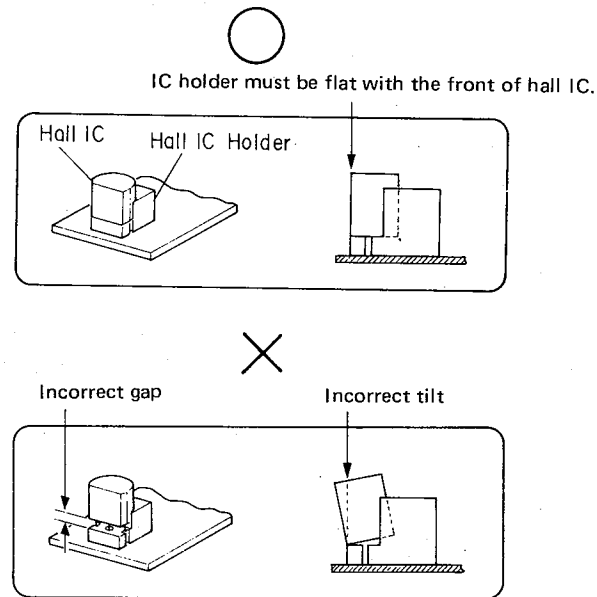

Fig. 19
The hall IC unit (207) can be removed by lifting the head of the canoe rivet (208) with a screwdriver or a nippers. Adjust the mounting position of the hall IC referring to Fig. 19.